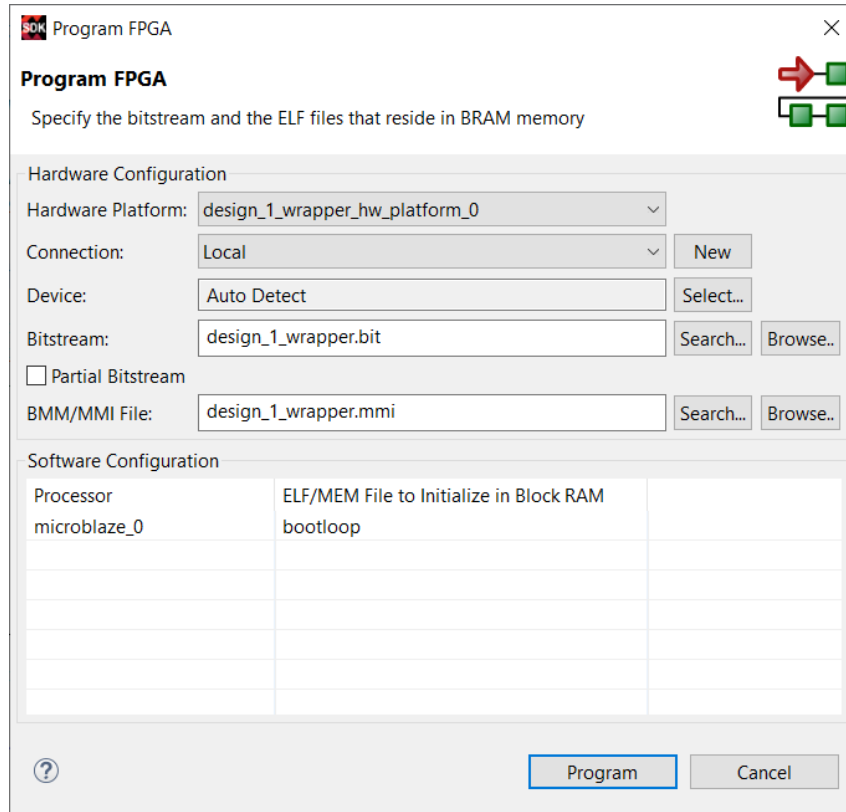

Figure 19: The program FPGA dialog in Vivado SDK
**Connect** your board to the computer and turn it on. Click **Xilinx Tools** → **Program FPGA** to program your board with the generated bitstream. If you have multiple boards connected, make sure to select the correct board by clicking **Select...** beside the *Device* field, otherwise the **Auto Detect** option should be fine. The bitstream should be automatically selected in this window. Click **Program** to start programming the board. See Figure 19 for reference. Note, this will program the board with the MicroBlaze system we created.